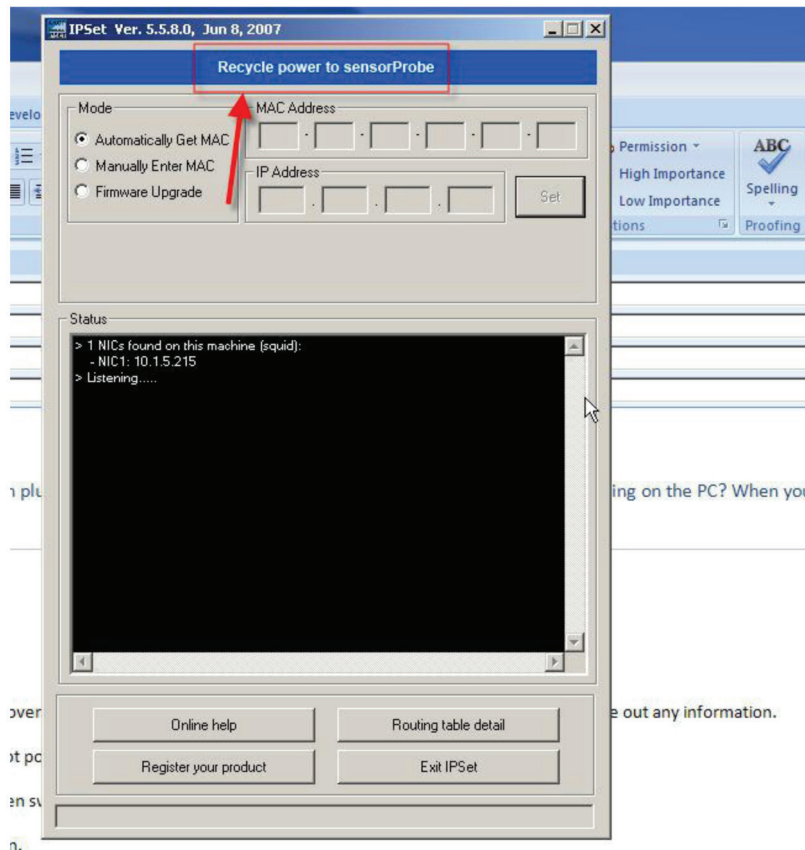

Figure 8-1. Finding the ServSensor's IP address.
**Answer:** Yes, you can unplug the power cord, then plug it back in, to cycle the power on the ServSensor while you have the IPSet utility software running on your PC. When you open the IPSet utility, it will say "Recycle power to ServSensor" (as shown in Figure 8-1).